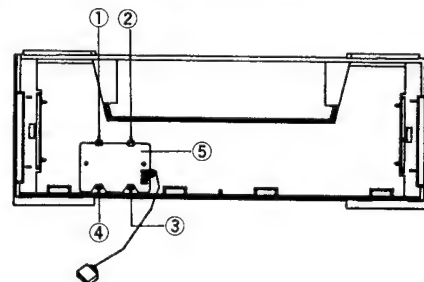

Fig. 5
1. Remove the front panel assembly (Refer to step ④)
2. Pulling hooks ① to ④ in Fig. 5, and then remove the control pcb ⑤